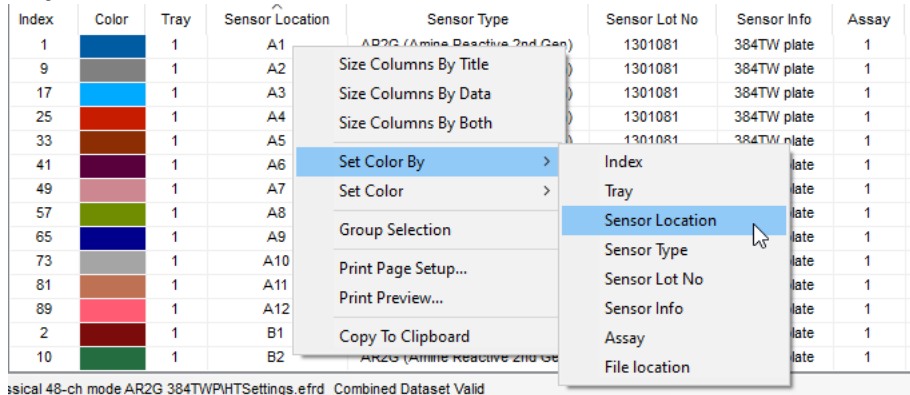

Figure 3-12: Set Color By
- **Set Color By**—Lets you color-code sensorgrams and table rows by Index, Sensor, Sensor Tray, Sample Sensor Plate, Sensor Type, Associated (Sample) Location, Sample ID or Assay (Figure 3-12). If you'd like the sensorgrams and table rows for each biosensor to be a different color, we recommend using **Set Color By Index**.